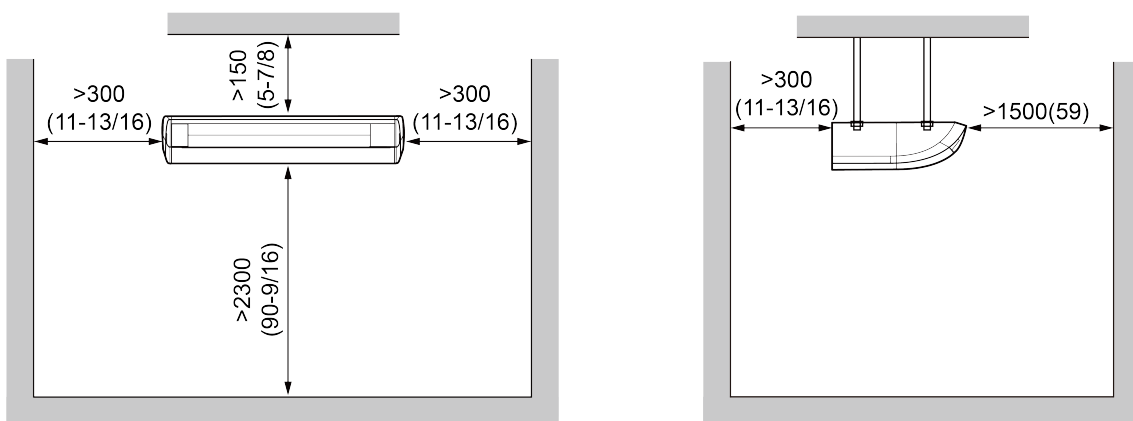

Fig.3.2.1
- (1) The location should be able to withstand the weight of unit.
- (2) The water can be drained conveniently from drainage pipe.
- (3) There should be no obstruction near air inlet and air outlet.
- (4) Follow the installation distance required in the Fig.3.2.1 below to ensure sufficient space for maintenance.
- (5) The installation location should be far from heat sources, flammable or explosive gas, or smog spread in the air.
- (6) The indoor unit, outdoor unit, power cord and connection electricity wire should be at least 1m (39-3/8 inch), from television and radio in order to prevent interference and noise. (Even though 1m (39-3/8 inch), distance is ensured, there may be noise if the electric wave is too strong.)